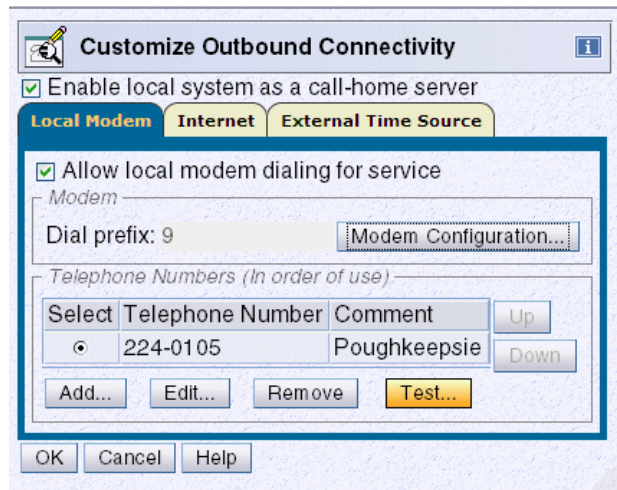

Figure 2-21 Modem connection completed
7. Test the modem connection (Figure 2-21).